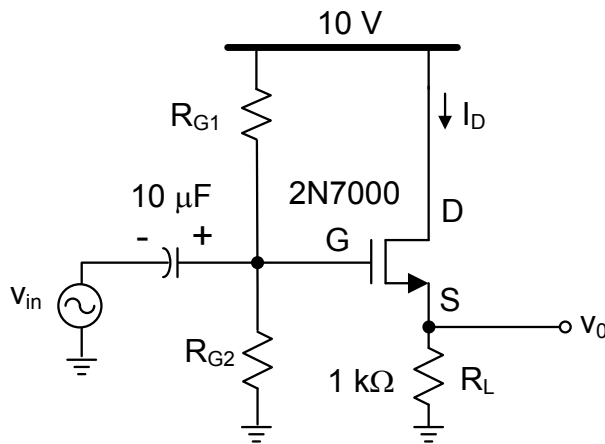

Fig. 4. Common-drain configuration
8. For the circuit in Fig. 4, use the parameters you extracted in the previous lab for the 2N7000 and find the values of  $I_D$  and the resistors so that the magnitude of the small signal voltage gain is greater than -2 dB. Select the values of  $R_{G1}$  and  $R_{G2}$  so that  $R_{G1} || R_{G2} > 100 \text{ k}\Omega$ . Check the operating point of your design and verify that the voltage gain is approximately given by  $g_m(R_L || 1/g_m)$ . Compute the values for the input impedance and output impedance.
9. Construct the circuit in Fig. 4 in PSpice and determine the input impedance, output impedance and voltage gain. Compare these values with the calculated values. Explain any differences.
10. Measure the frequency response of the circuit in Fig. 4 and find the low and high frequency poles.
10. Construct the circuit shown in Fig. 4. Use the resistor values computed in the pre-lab and verify these values using PSpice. A potentiometer might be needed to achieve the required bias voltage.